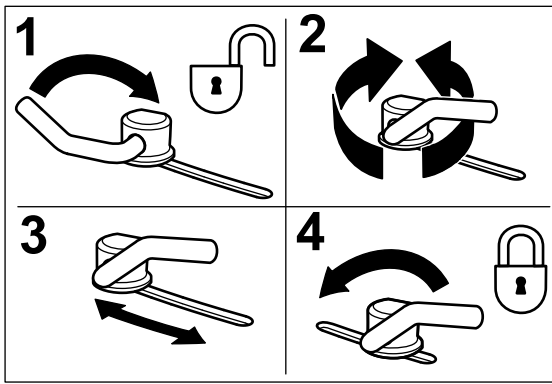

Figure 13
1. To adjust the cam locks, swing the lever up to loosen the cam lock (Figure 13).
3. Swing the lever back over to tighten the baffle and cam locks (Figure 13).